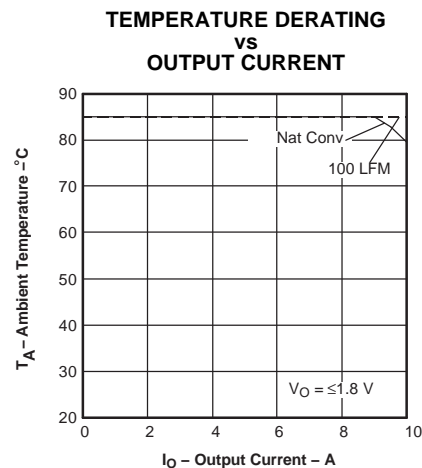

Figure 8.
- (2) SOA graphs represent the conditions at which internal components are at or below the manufacturer's maximum operating temperatures. Derating limits apply to modules soldered directly to a 4 in x 4 in, double-sided PCB with 1 oz copper. For surface mount products (AS and AZ suffix), multiple vias (plated through holes) are required to add thermal paths around the power pins. Please refer to the mechanical specification for more information. Applies to Figure 8.